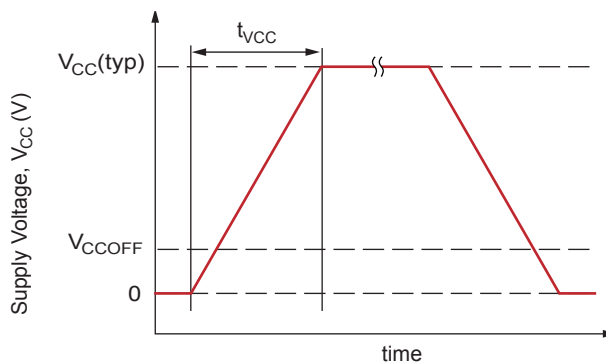

Figure 4. Definition of  $V_{CC}$  Ramp Time,  $t_{VCC}$
**$V_{CC}$  Ramp Time.** The time taken for  $V_{CC}$  to ramp from 0 V to  $V_{CC}(typ)$ , 5 V (see Figure 4).
**$V_{CC}$  Off Level.** For applications in which the VCC pin of the ALS31000 is being power-cycled (for example using a multiplexer to toggle the part on and off), the specification of  $V_{CC}$  Off Level,  $V_{CCOFF}$ , determines how high a  $V_{CC}$  off voltage can be tolerated while still ensuring proper operation and startup of the device (see Figure 4).